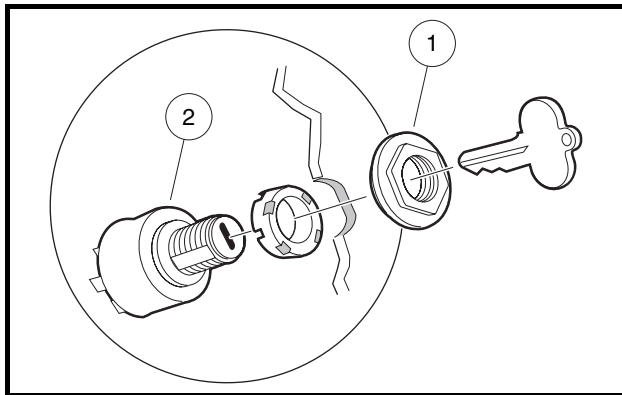

Figure 23-2 Key Switch Removal – 800 and 810
- 4.1. Remove the key switch nut (1) (**Figure 23-2, Page 23-2**).